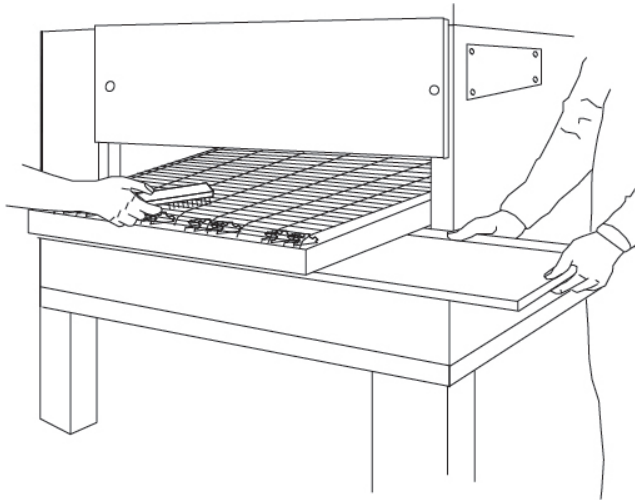

Figure 26. Conveyor Belt and Crumb Pan Cleaning
C. Conveyor Belt (Figure 26)
D. Crumb Pans (Figure 26)
When the oven is cool remove and clean the crumb pan at each end of the oven. Each crumb pan can be removed by sliding it out, as shown in Figure 26. Reinstall the crumb pans after cleaning.